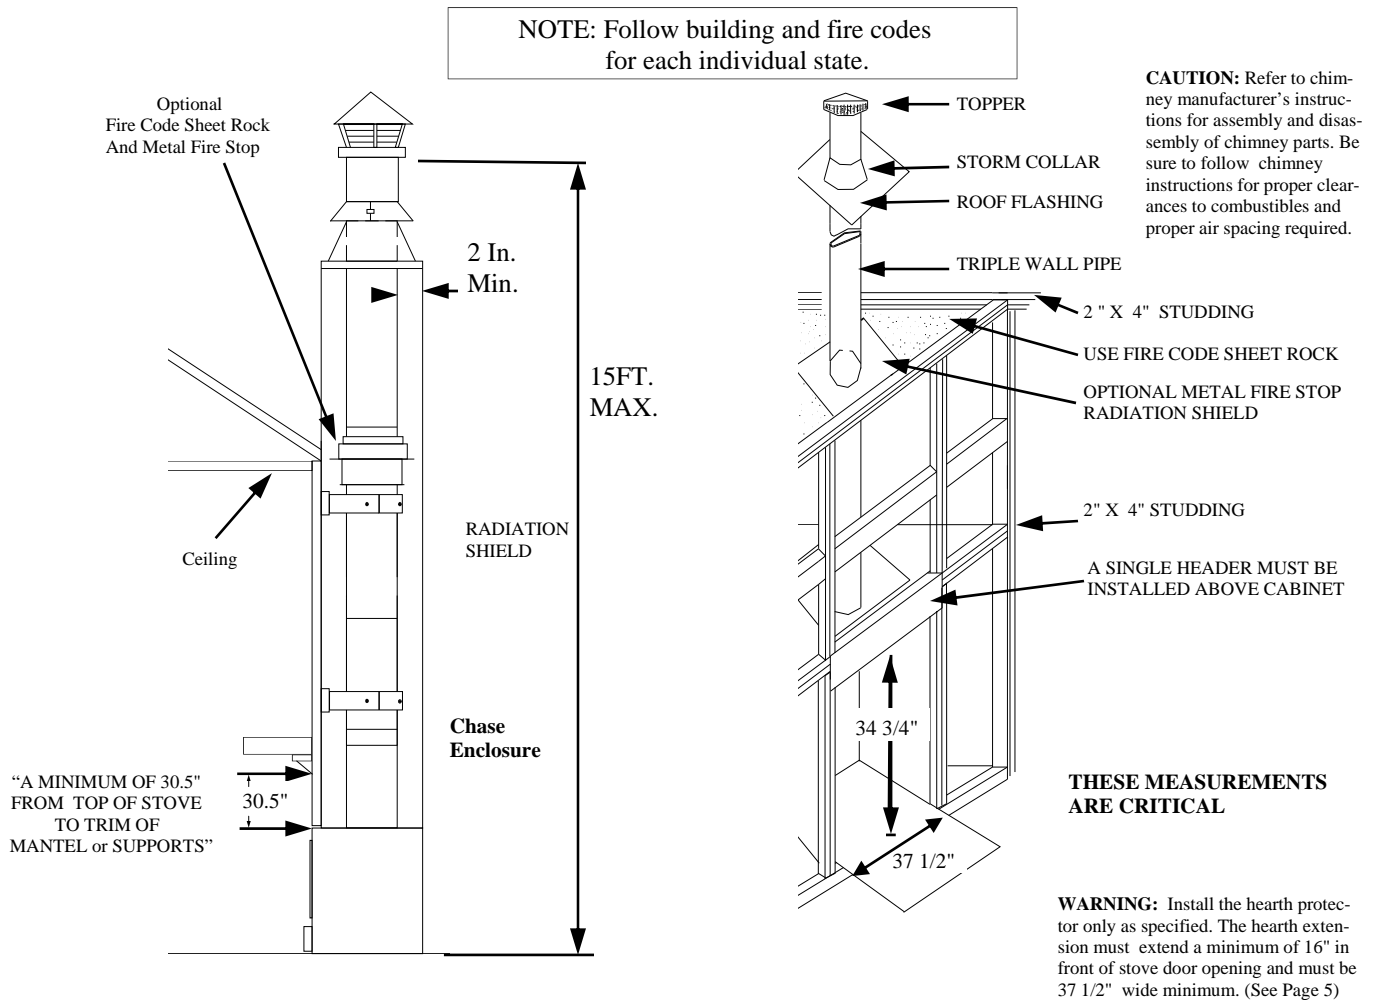

FIGURE 14 CHASE ENCLOSURE AND CORNER LOCATION FRAMING
3. Clearances from mantel, and trim to the top of stove must be a minimum 30.5" (See Page 16, Figure 14).
- b) 2" x4" framing above the unit must be turned flat. This allows proper clearance from framing to chimney (2" minimum). (See Page 16, Figure 14).